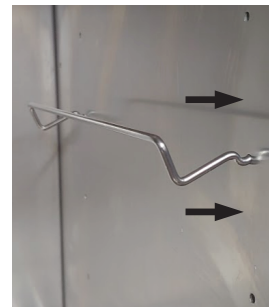

FIG. 2
- Align bracket ends with holes located inside the ovens walls (FIG. 2)